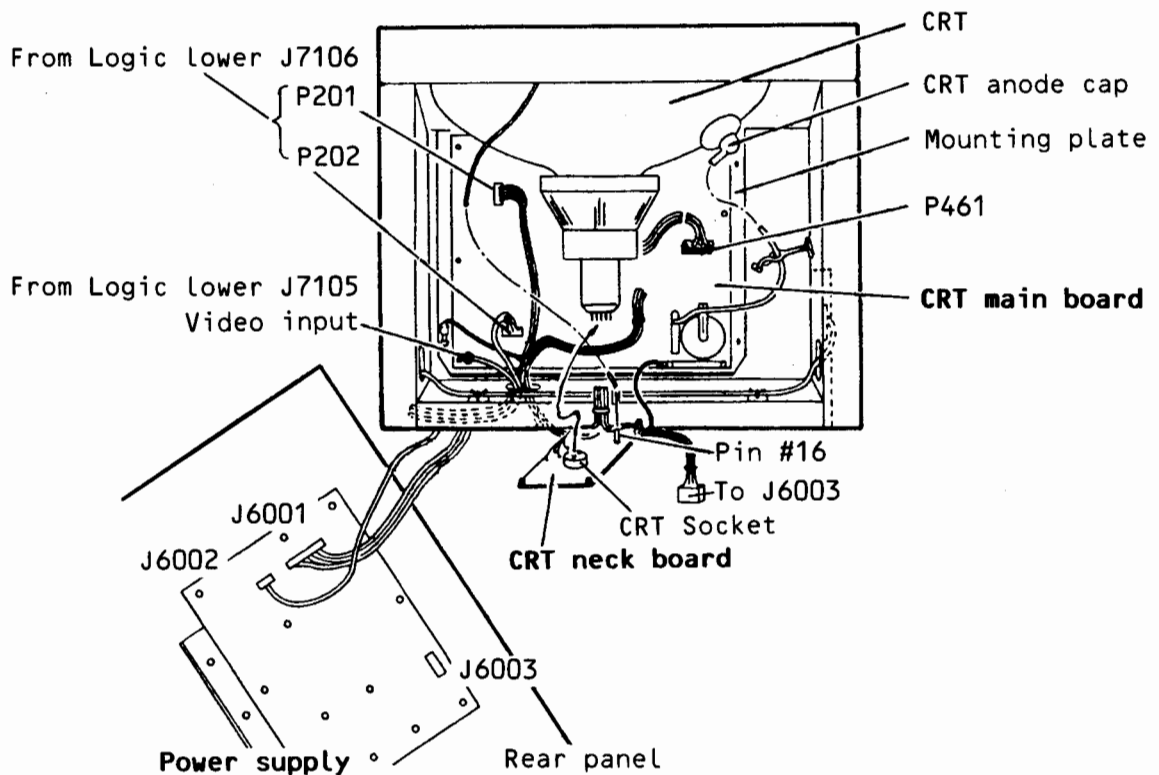

Fig. 5.2.4.1 Layout of CRT Unit Boards
- (8) When optional gyro/log interface board is mounted on the left hand side of the display unit, detach the board. Remove four (4) fixing screws of the mounting plate, referring to Fig. 5.2.4.1. Carefully take out the mounting plate with CRT main board and neck board through the left hand side opening of the display chassis as shown in Fig. 5.2.4.2.
- (9) Remove twelve (12) fixing screws of the CRT main board and detach the board from the mounting plate.
- (10) Referring to para. 5.2.1, dismount the control panel unit. Dismount the bracket by removing five (5) fixing screws.
- (11) Remove ten (10) screws fixing the front frame to the display chassis.